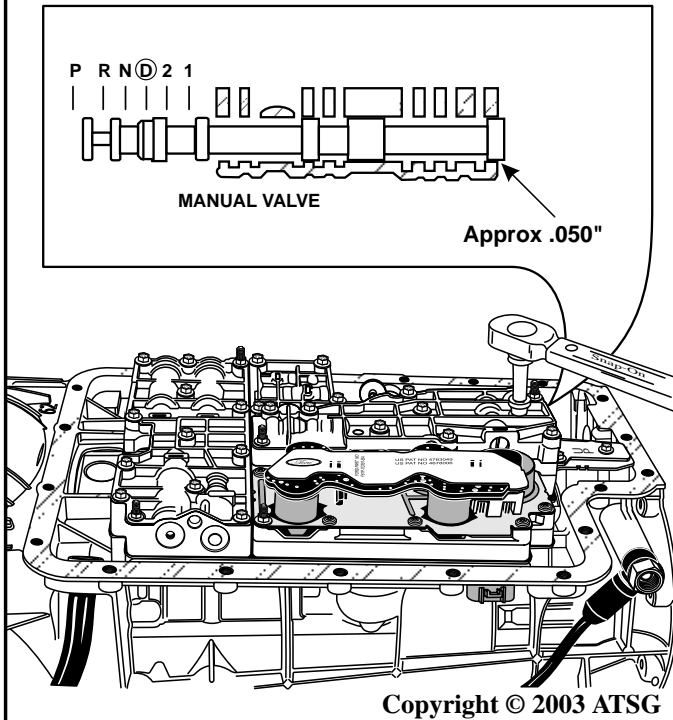

Figure 195
14. Torque all valve body bolts and nuts, as shown in Figure 195 to: 9-11 N·m (80-100 in.lb.).
Note: Place the manual lever in the reverse position and measure distance that manual valve is protruding past the rear of the valve body casting. It should be approximately .050", as shown in Figure 195. If dimension is not correct, replace the detent spring and roller assembly with a "New" one.